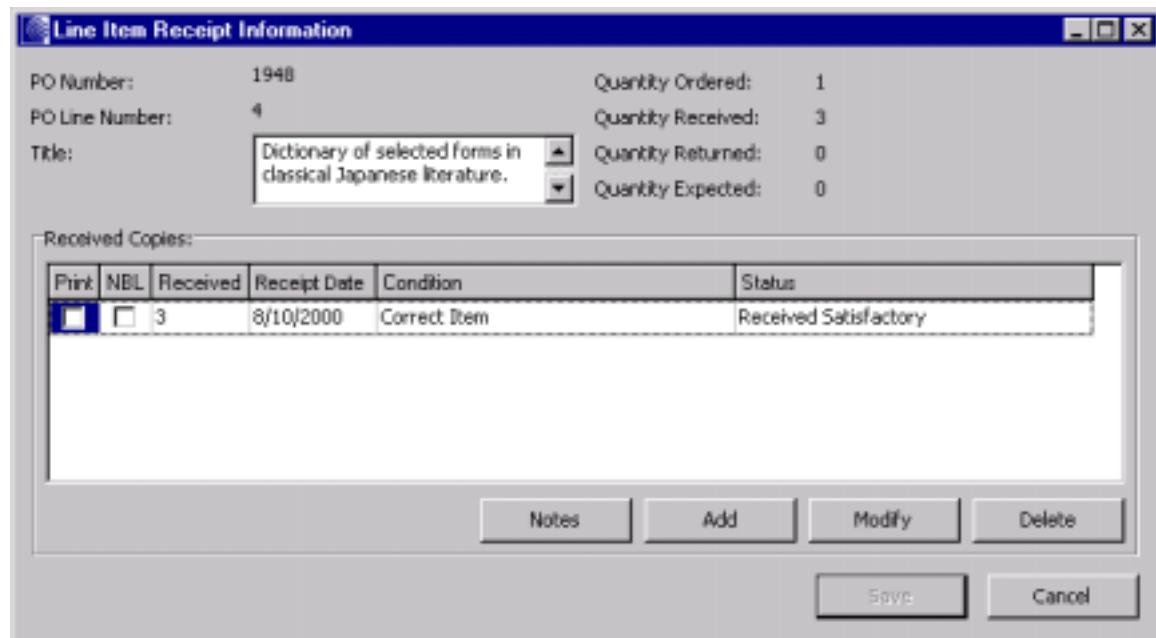

Figure 6-18. Line Item Receipt Information Window
1. On the Line Item Receipt Information window (*Figure 6-18*), highlight the line showing the receipt of the three items.